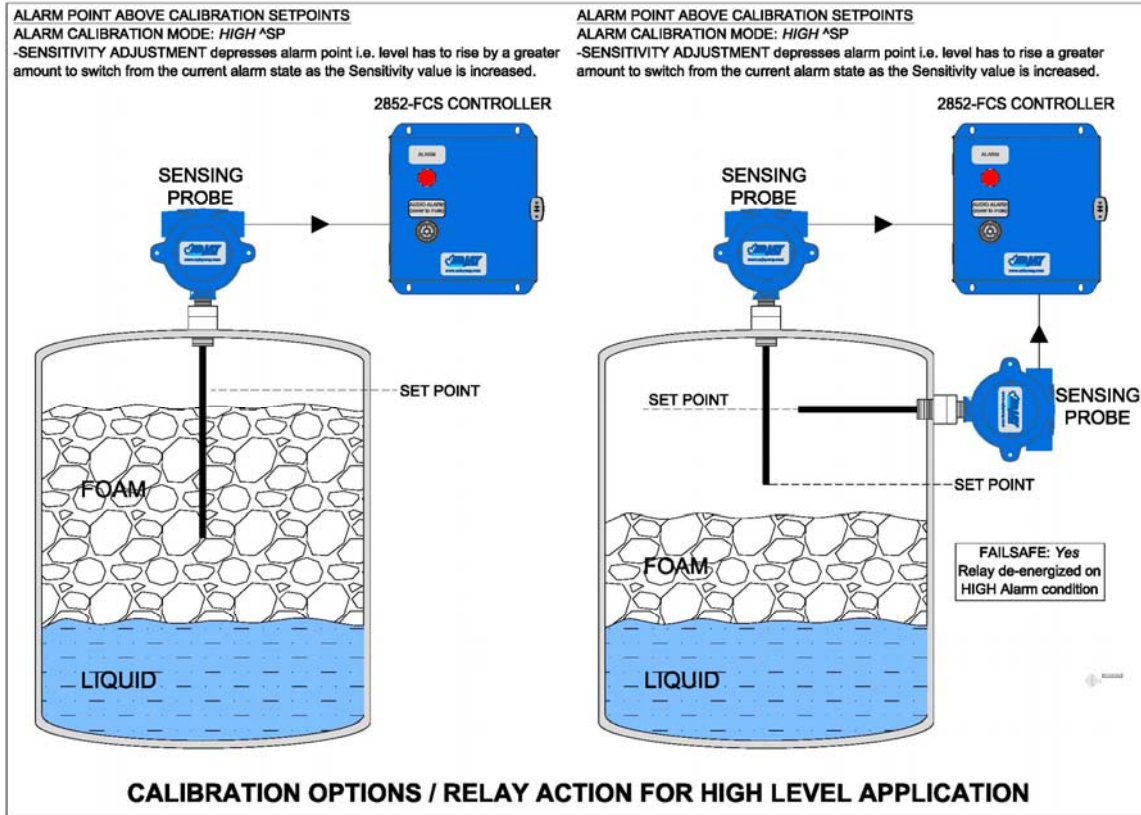

Figure 4 – No Differential Application – High Level
3. No mA output OR incorrect mA output.	<p>IMPORTANT: THE UNIT SOURCES mA OUT FROM THE mA OUTPUT TERMINAL. THIS TERMINAL SHOULD NOT BE CONNECTED TO +24V. IT IS NOT A 2 WIRE mA TRANSMITTER. See Figure 4 for Electrical hookup details.</p> <ul style="list-style-type: none"> • Disconnect external wires from mA output and measure with mA Meter. • Check the mA output Action (direct or inverse) and mA output Span are set as desired. See section 6.0 Flow chart / Change menu. • If the mA output still does not match the level, then call Arjay Technical Support.